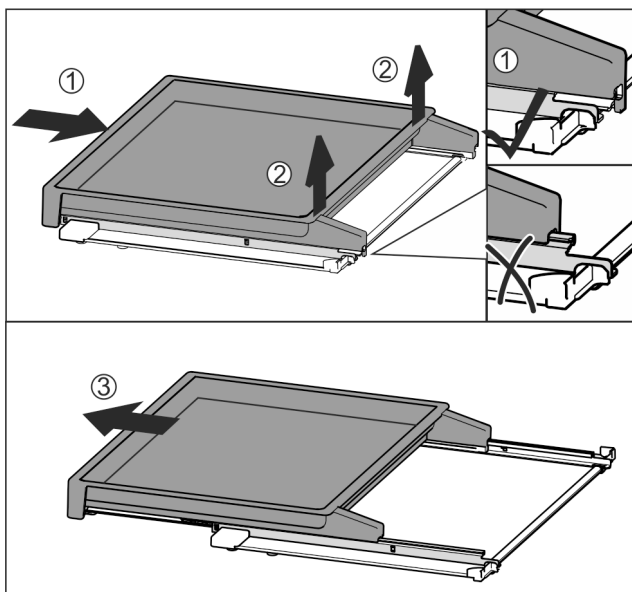

Fig. 40
- Slide the pull-out board all the way in Fig. 40 (1).
- Release the clips at the back Fig. 40 (2).
- Remove the pull-out board from the front Fig. 40 (3).